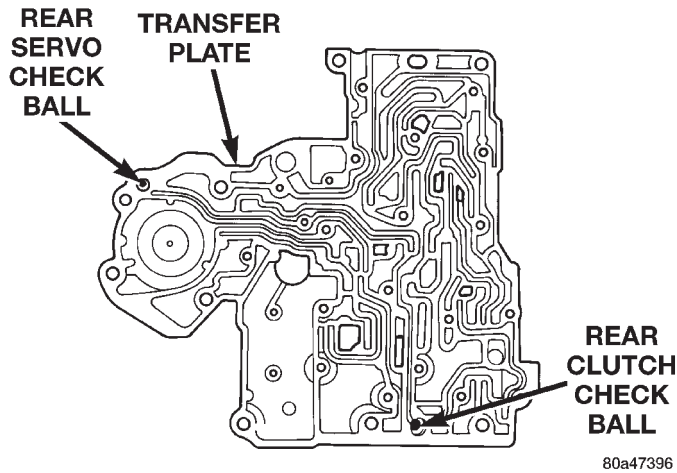

Fig. 60 Rear Servo and Rear Clutch Check Balls
(22) Install rear clutch servo and rear servo check balls in proper cavities in transfer plate (Fig. 60).